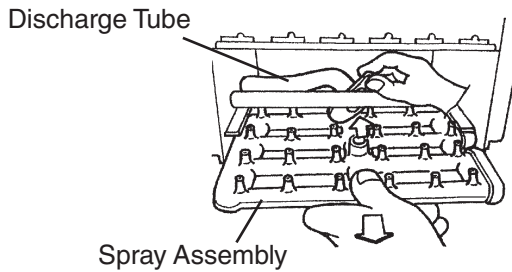

Fig. 42
- 7) Disconnect the discharge tube from the spray assembly, then slide out the spray assembly. See Fig. 42.